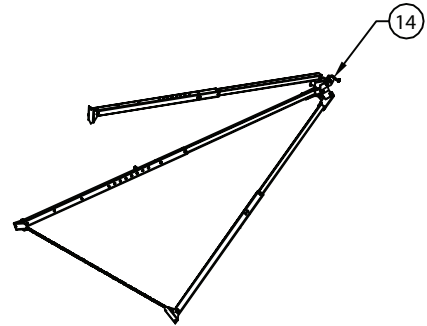

FIG. 4b
1. Lay the tri-pod on its side as shown in (Fig. 4b), with leg containing pulley [14] up.